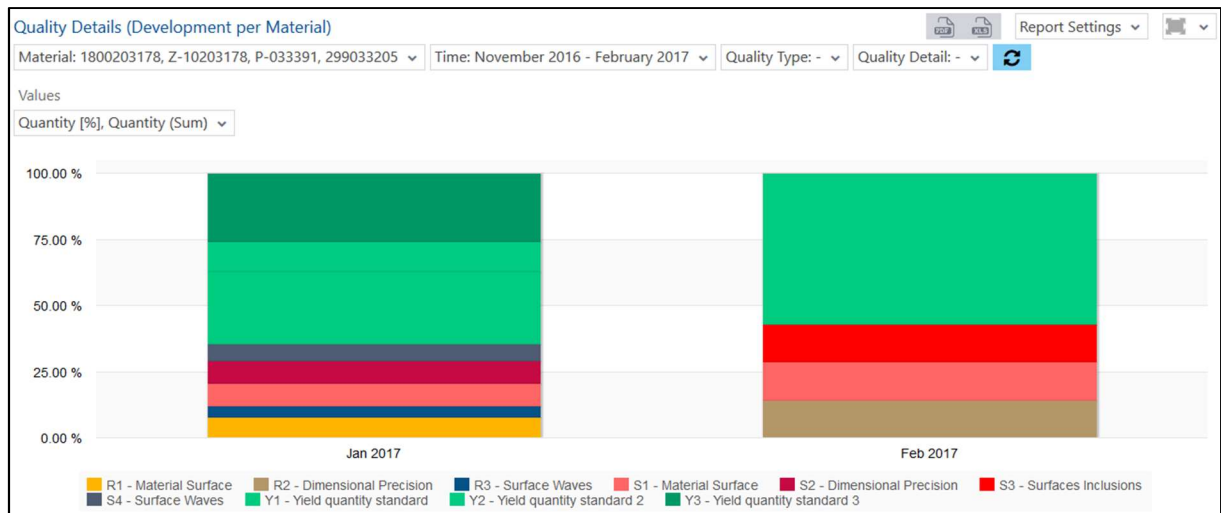

Fig. 113: Quality Details (Development per Material) as a column chart
- Quality Details (Development per Material) as a column chart (Fig. 113):